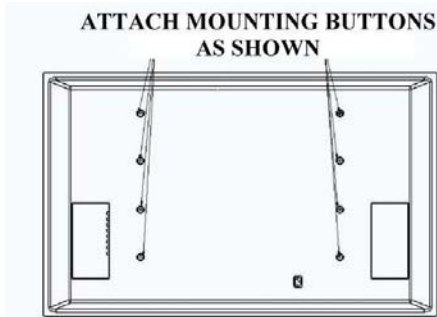

Figure 2
1. Attach mounting buttons to plasma using one Phillips head cap screw per mounting button (Figures 2 & 3).